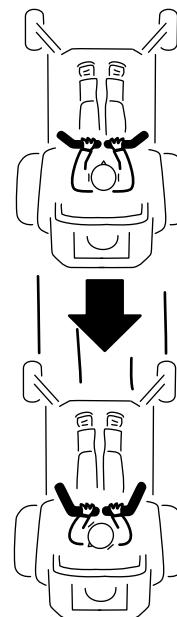

Figure 31
2. To go backward, slowly pull the motion-control levers rearward (Figure 31).